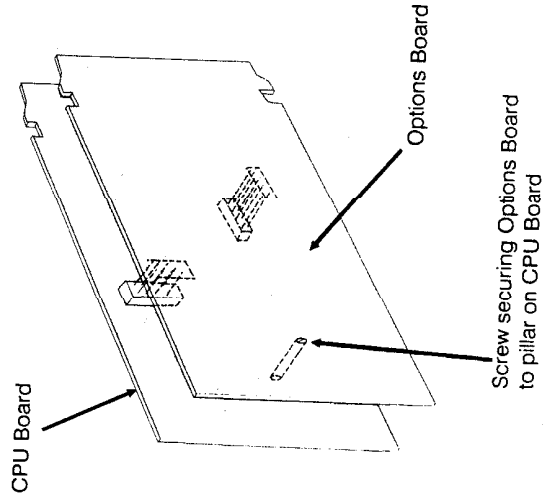

Figure 7-2 Separating the Two PCBs
- Extract the screw securing the Options Board to the pillar on the CPU Board (see Figure 7-2). Carefully pull the two Boards apart, ensuring that the two Boards remain parallel to each other in order that the plugs and sockets linking the two Boards are not bent or distorted.